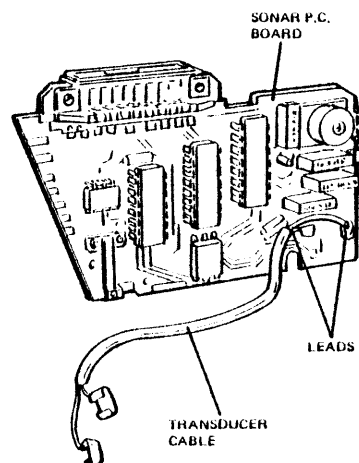

FIGURE 4-32
1. Replace the old sonar P.C. board with a new one, if necessary, at this point. Unsolder the leads of the transducer cable on the old sonar P.C. board and resolder them onto the new board (see Figure 4-32).